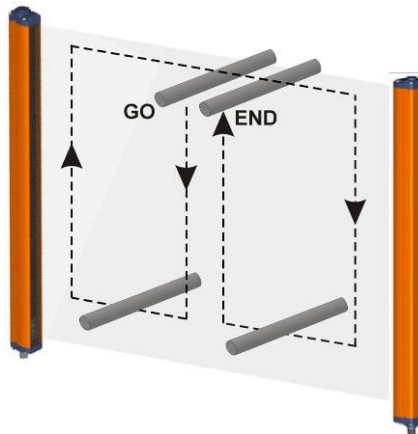

Fig. 12
- ESPE remains blocked (➤I) intercepting the beams along the protected area using the specific test piece, following the Fig.12 scheme.